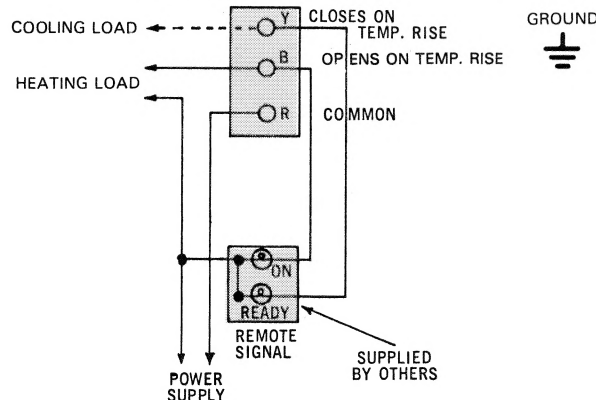

Figure 6 — Wiring diagram showing remote signal
3. **Signal Circuit** — Self contained pilot lamps are not available. Remote lights or other type of signal circuits may be connected as shown in Figure 6.
4. Connect wires according to wiring diagrams (Figures 6 thru 8). **Note:** Electrical connections should be made with generous loops of wire — approximately 6" per lead.